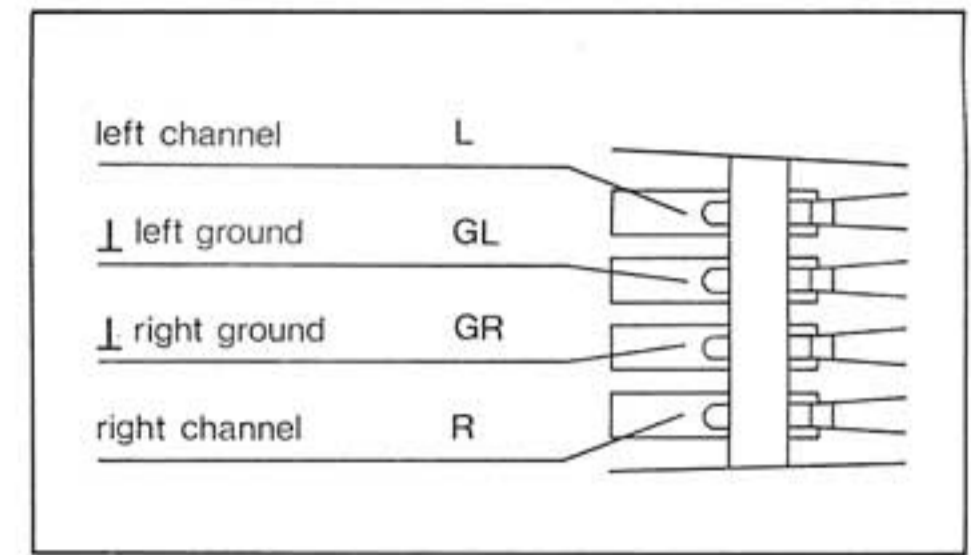

Fig. 13
4. The cartridge pins are marked, and the connecting leads are color-coded (Fig. 13). Connect the leads to the corresponding pins on the cartridge.